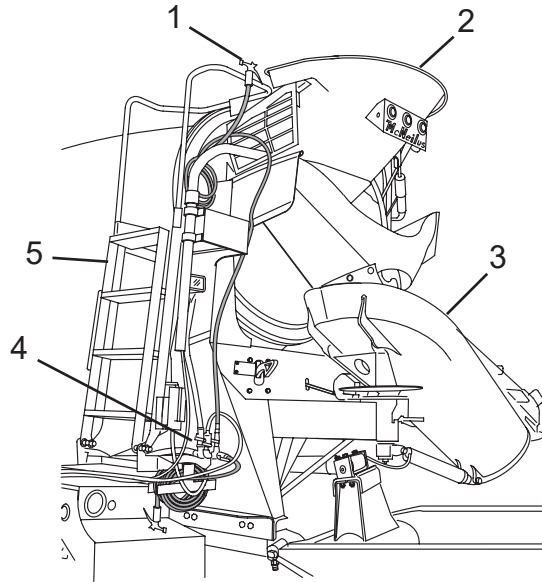

Figure 77
5. Turn on the wash-out hose valve (Figure 77, Item 4).
6. Unfold the access ladder (Figure 77, Item 5).
7. Using the wash-out hose (Figure 77, Item 1), start at the top and wash out the charge hopper (Figure 77, Item 2), the interior of the drum, the main chute (Figure 77, Item 3), and chute extensions.